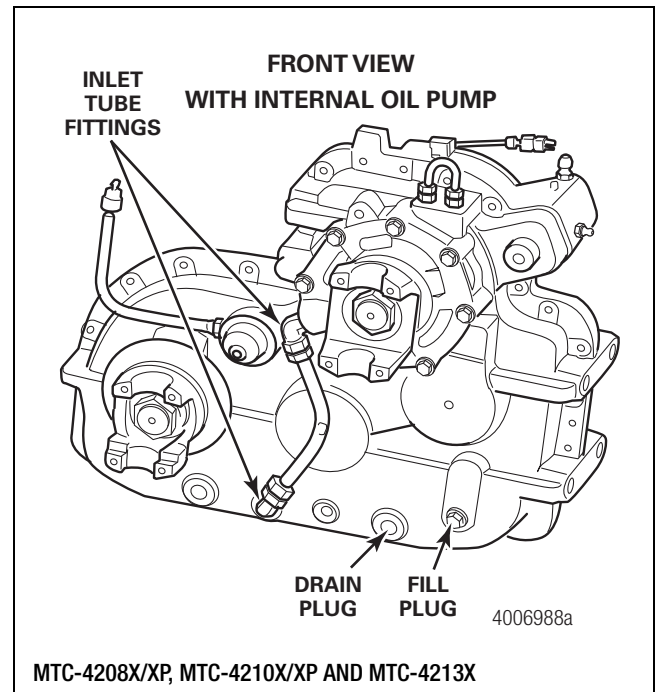

Figure 4.2
- A. Disconnect the transfer case oil inlet line from the oil pump cover. Figure 4.2.
1. Disconnect the oil line from the input bearing cage. Figure 4.2.